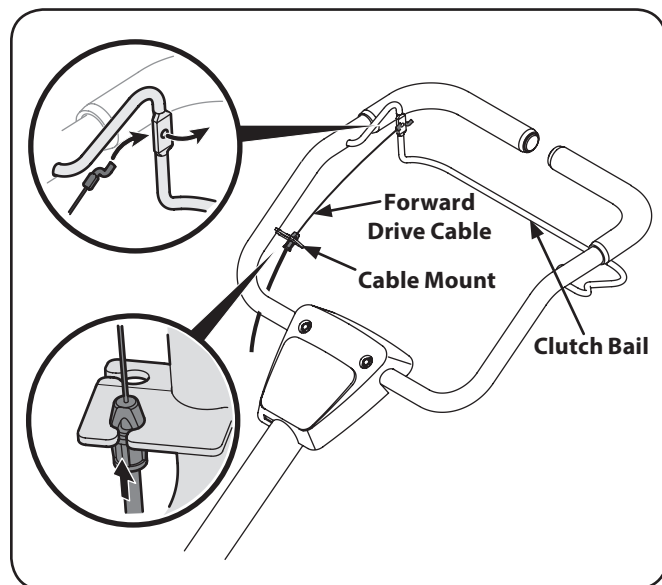

Figure 3-2
1. Route the cable along the handle assembly on the right-hand side. See Figure 3-2.
2. Connect the forward drive cable to the clutch bail by feeding the z-hook through the hole on the clutch bail from the outside towards the inside. See Figure 3-2.
3. Snap the cable housing clips into the handle assembly cable mount as shown in Figure 3-2. The clip feeds into the lower position on the handle assembly. See Figure 3-2.